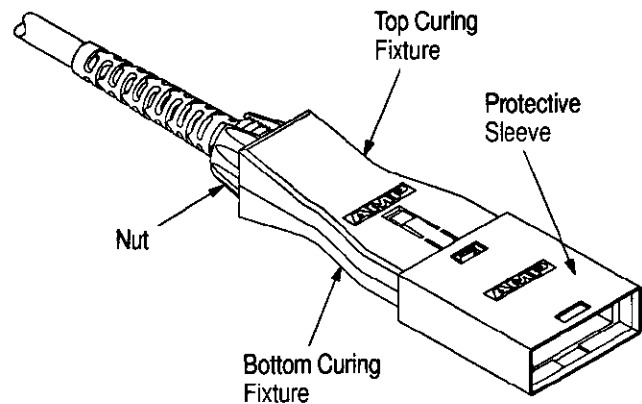

Figure 12
6. Place the top curing fixture on the bottom curing fixture and screw the nut onto the fixture assembly to secure both halves (see Figure 12). Place the protective sleeve on the fixture assembly. If needed, use a piece of double-sided tape to hold protective sleeve onto the fixture assembly.